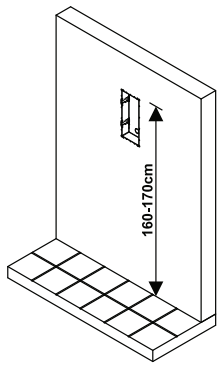

Fig. 58
1. It is recommended that the flush box (C) is mounted into the wall approximately 165-170cm between the top of the box and the floor level as shown in **Fig.58**.
6. Next close in the front support frame (H) and then pull it back from the flush box (C) while moving it slightly to the left, following the guide arrows, as shown in **Fig.58**;